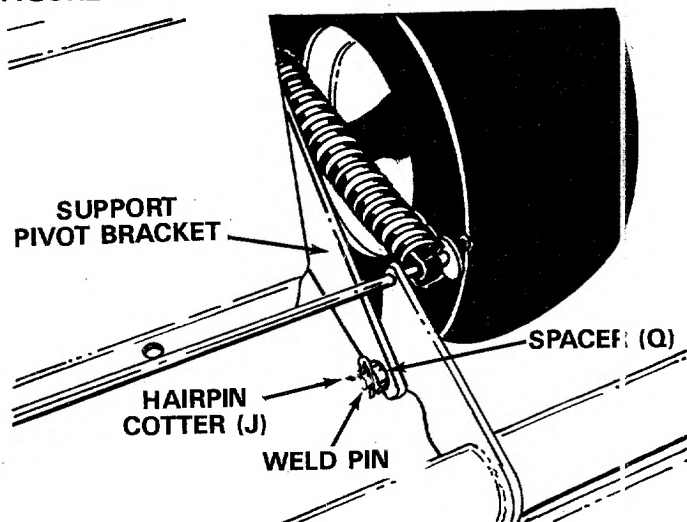

FIGURE 10
21. There are two weld pins on the front of the tiller. Push the tiller forward, then to the left so the weld pins go through the bottom hole in the pivot support brackets. See figures 10 and 11.
22. Secure the weld pin on the right hand side of tiller using spacer (Q) and hairpin cotter (J). See figure 10.